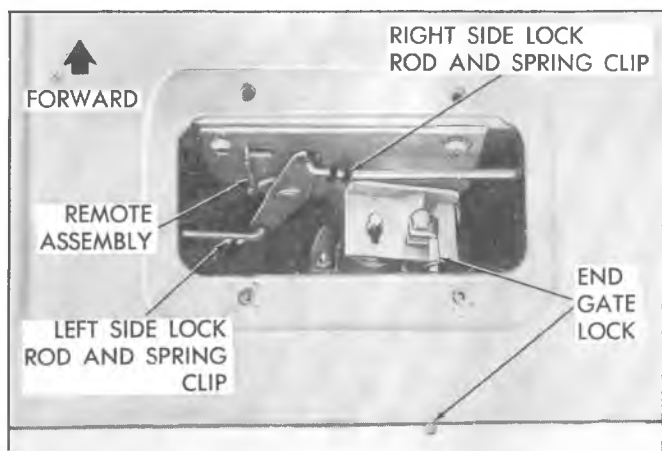

Fig. 26—Endgate Remote and Push Button Control Assembly
2. Remove spring clip securing the right side lock rod to remote assembly. (See Figure 26)